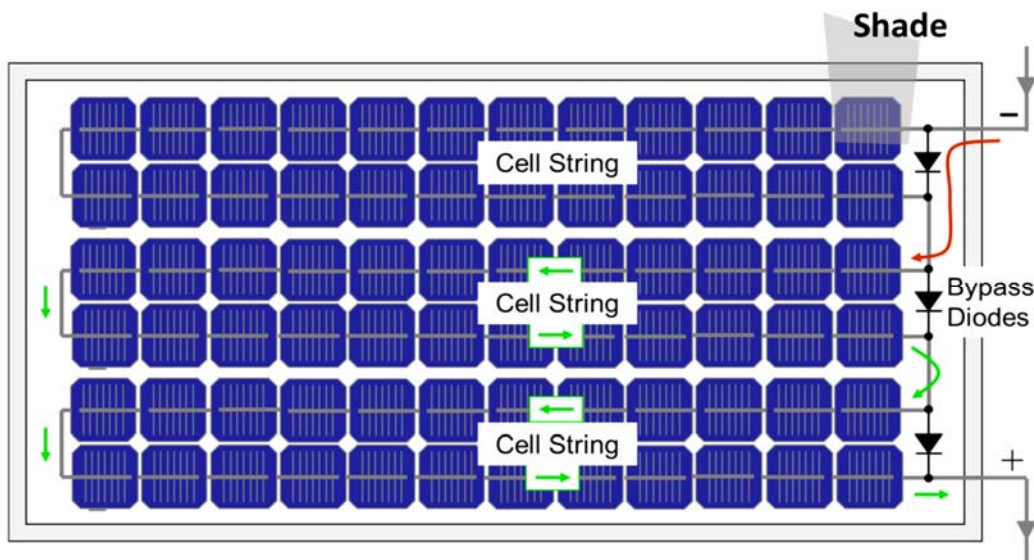

Fig. 1 The path of current in a 72-cell, 3 cell string, grid tie PV module
To protect individual cells from overheating under partially shaded conditions, and to keep the rest of the array producing energy, modules are equipped with bypass diodes, which are typically mounted inside the junction boxes on the back of the modules. Each bypass diode is connected across a different sub-string of PV cells within the module. In a typical 72 cell module, there are usually 3 bypass diode, as shown in Fig. 1. When shade falls on a PV cell, the bypass diode that spans that particular group of cells turns on, shunting current around the shaded cells.
9. Record voltage and current in no shading condition. Shade one cell, first cell of the top-right-side of PV panel (Fig. 1).
10. Shade two adjacent cells, two cells of the top-right-side of PV panel (Fig. 1). Without changing the load, record PV panel voltage and current.
11. Shade two cells, two cells under each other of the first column of the top-left-side of PV panel (Fig. 1). Without changing the load, record PV panel voltage and current.